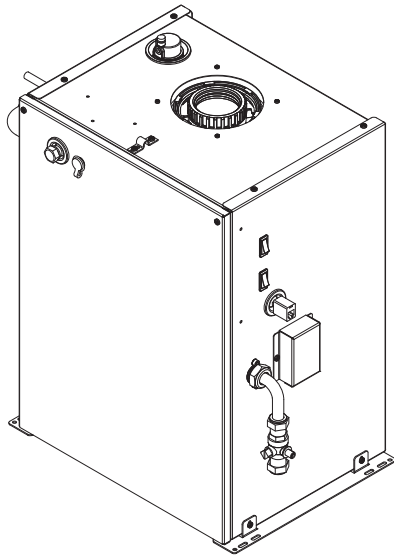

Fig. 1
6. These instructions relate to the central heating boiler section of the appliance (Fig. 1).